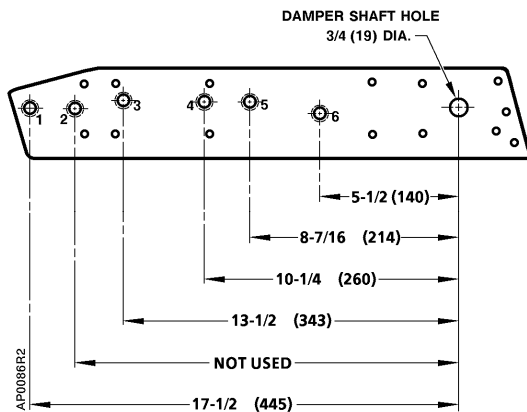

**Figure 9. Frame Mounting,
4. Attach Rocker 333-034 to blade in proper position for normally open or normally closed damper using 2 nuts, 041-230K, and 2 screws, 030-510J. See Figure 9 and Figure 10.
- a. Normally Open damper: attach the plate to the lug. Place the pivot post in Hole 4. See Figure 9.